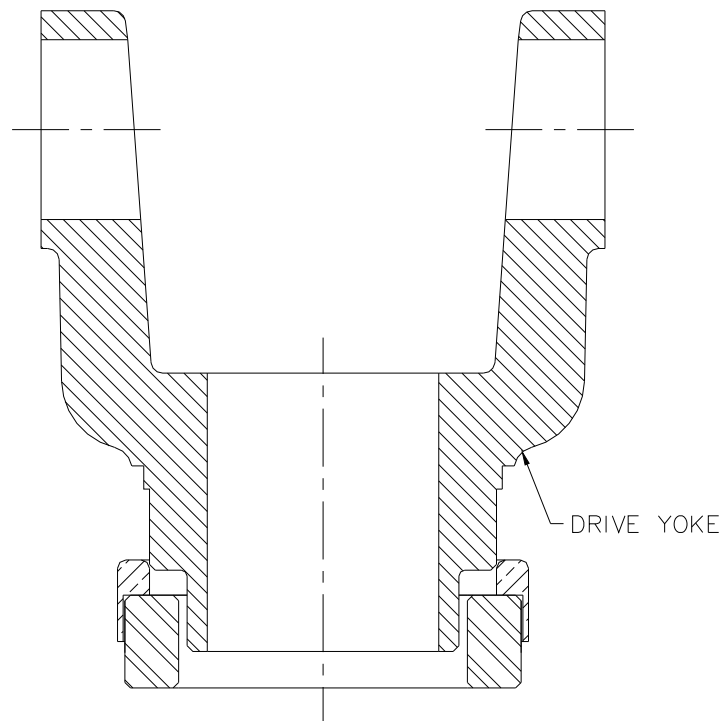

Fig 1b
- Position drive yoke on top of water flinger keeping it straight and centered. (See Fig 1b)